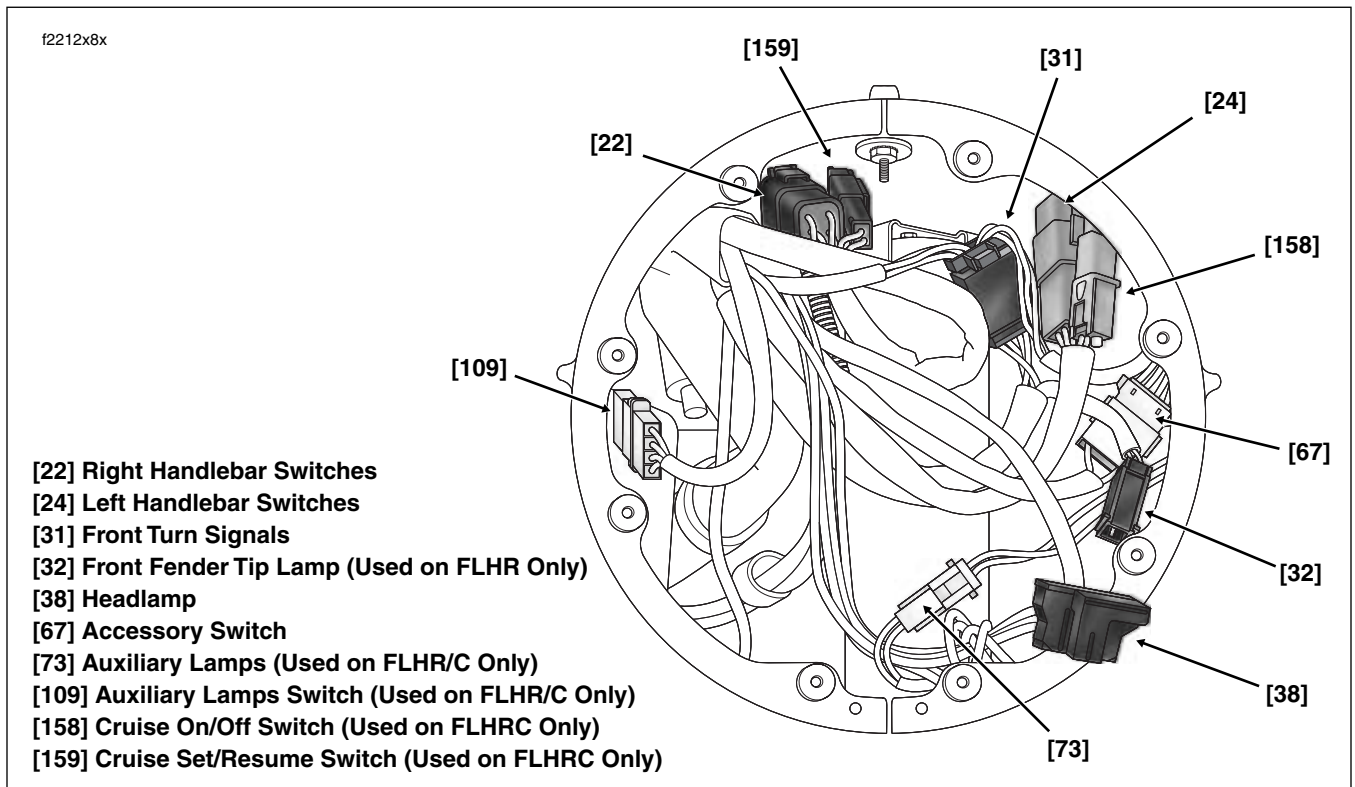

Figure 8-156. Headlamp Nacelle - Main Harness Connectors (FLHR/C/S)
2. See Figure 8-156. Reaching inside the headlamp nacelle, disconnect main harness as follows: